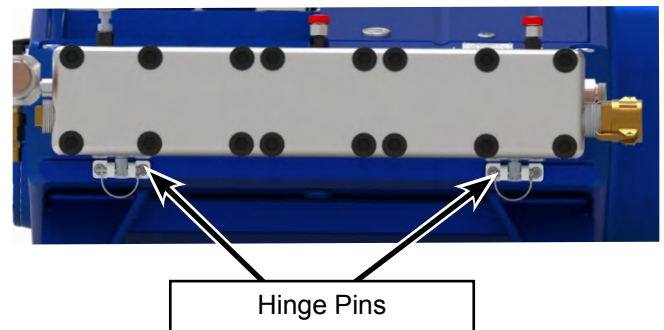

Figure 33: Remove Hinge Pins.
4. Remove the hinges pins from the hinge blocks. (Figure 33)